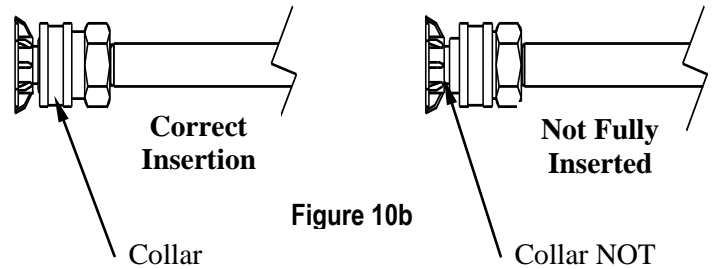

Figure 10b
3. Release the collar, making sure it springs back and re-seats to its original (non-retracted) position. (Fig. 10b). *Check the connection by pulling on the nozzle to ensure a tight connection -- if correctly inserted, nozzle will rotate but not pull out.*